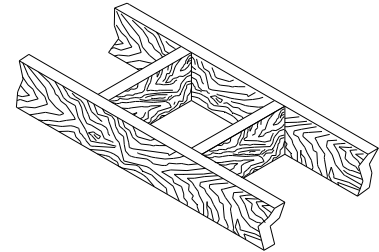

Figure 25
1. Cut and frame the holes in the ceiling, floor and roof where the chimney will pass (see figure 25). Use a plumb bob to line up the centre of the holes. The sizes are indicated in table 1 for the floor and ceiling holes and table 2 (page 28) for the roof holes.